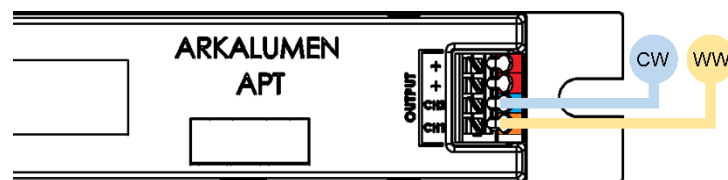

Figure 3 - Wiring APT-CV2-VA Warm White/Cool White Light Engine
2. Changing the DMX Address Assignment does not change the physical wiring of the controller to the light engine. Please refer to Figure 3 for warm white/cool white wiring application.